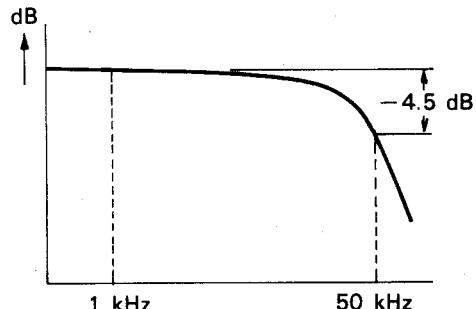

Fig. 15
3. Supplying the 50 kHz signal through the low-frequency oscillator, make sure that the frequency response is more than 50 kHz at 1 kHz for the -4.5 dB. (See Fig. 15.)